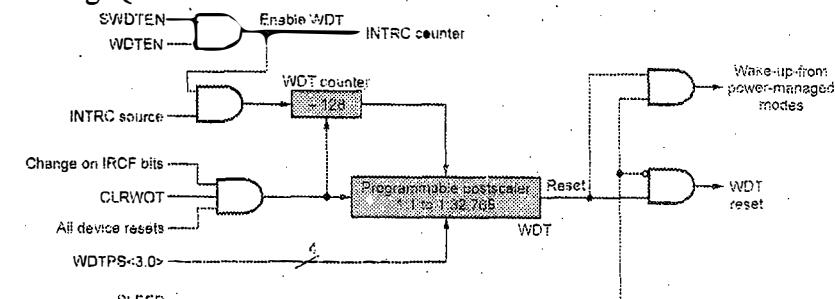

Fig. Q.13.1 Watchdog timer
- The general block diagram of Watchdog timer is shown in Fig. Q.13.1.